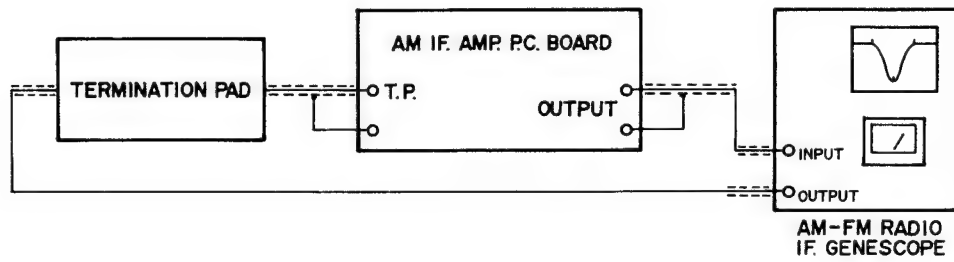

Fig. 15
- 1) Connect the AM-FM Radio IF GENESCOPE (hereinafter referred to as GENESCO) lead wires to Test Point (T.P.) as well as the output terminal of the AM IF Amp. P.C. Board as shown in Fig. 15.